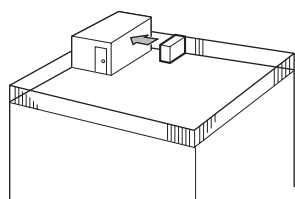

Fig. 2-3
(1) Face the air outlet towards the nearest available wall about 500 mm, 19-11/16 inches away from the wall. (Fig. 2-3)